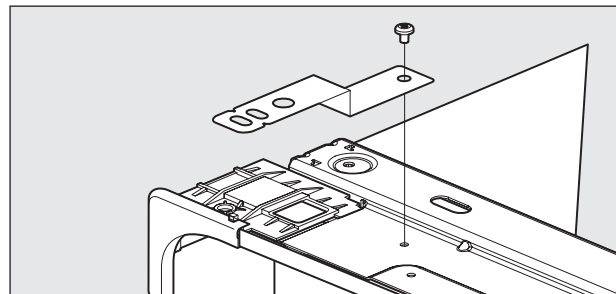

Figure 2-8. Top Mount Cabinet Clips
- b. Top Mount Cabinet Clips (to be used when Side Mount is not an available option) (See Figure 2-8)
NOTE: Install Top Mount Clips before unit is installed into the cabinet. Screw clips firmly to top brace using screws provided in the literature pack. (See Figure 2-8)